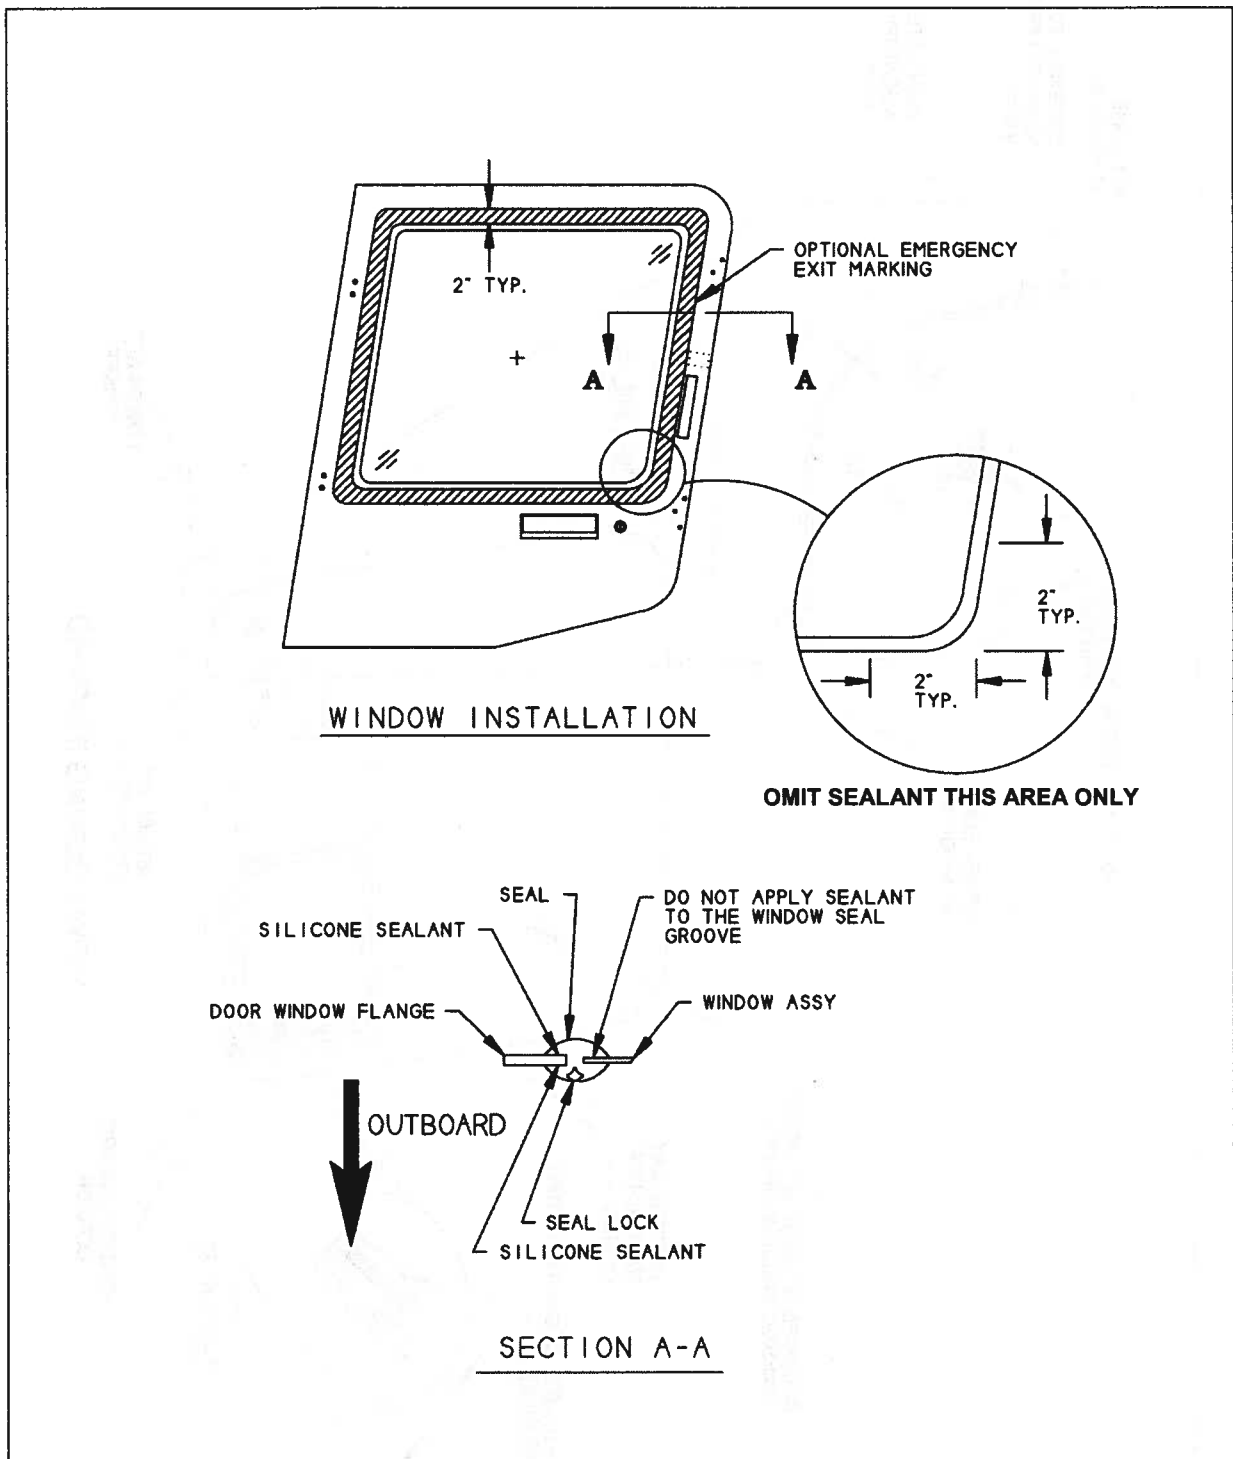

FIGURE 5 - WINDOW INSTALLATION
3. Using Mylar or similar tape, carefully mask off the lower aft corner (2 x 2 inch) of the window opening in the frame, as shown in Figure 5. The seal should not be bonded in the lower aft 90 degree quadrant of the frame (inside 2 x 2 inch area).
14. Using Syringe (099-859-002), apply Sealant (099-050-243) to both sides of the narrow seal groove except in lower aft corner area, as shown in Figure 5, and to the areas of the window frame that have been prepared for bonding.
2. If the window cannot be dislodged within the specified force range, verify sealant application is as specified in Section 5 and Figure 5. Verify the seal lock is installed correctly as specified in Section 5, and that there is no evidence of binding between the seal, door and window. Inspect the upper interior door trim panel to verify the edge contacting the seal is adequately trimmed and not impeding the seal’s function as specified in Step 1. Correct any discrepancies, if found, and repeat Step 1; otherwise proceed to Step 3.
6. If the window cannot be dislodged within the specified force range, verify sealant application is as specified in Section 5 and Figure 5. Verify the seal lock is installed correctly as specified in Section 5, and that there is no evidence of binding between the seal, door and window. Correct any discrepancies, if found, and repeat Step 5; otherwise proceed to Step 7.